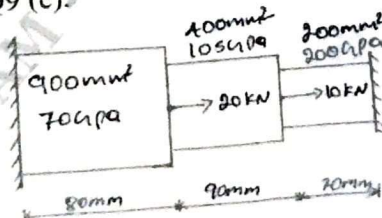

Fig. Q9 (c)
- c. Find the nodal displacement, stress in the thickest section and left section reaction for the structure shown in Fig. Q9 (c). (10 Marks)